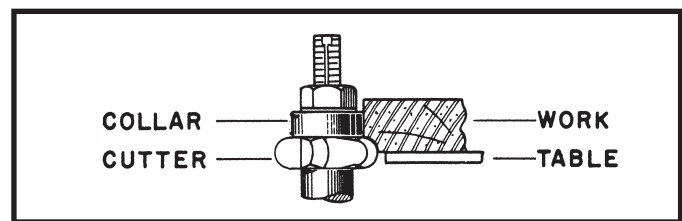

Fig. 29
2. When the collar is used below the cutter (Fig. 29), the operator can see the progress of the cut. **NOTE:** Any accidental lifting of the work will gouge the wood and ruin the workpiece.
3. When the collar is used above the cutter (Fig. 29), the operator will be unable to see the cut. However, the advantage in this method is that the cut is not affected by slight variations in the thickness of the stock. Also, accidental lifting of the work will not gouge the workpiece. Simple correction for the mistake is to repeat the operation.